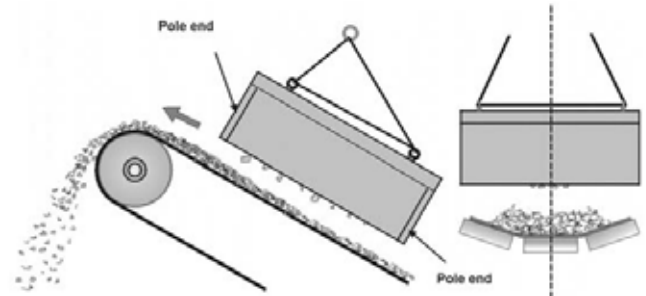
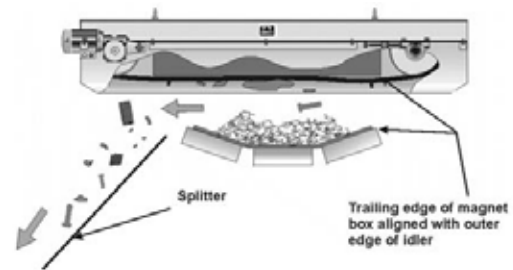

FIGURE 3
FIGURE 4
A separator mounted over a moving bed of material at right angles to the conveyor is referred to as Position 2 (Figures 3 and 4). This installation usually requires a stronger magnet than Position 1 since tramp iron at the bottom of the burden is more difficult to extract.
A separator mounted over a moving bed of material at right angles to the conveyor is referred to as Position 2 (Figs. 3 and 4). This installation usually requires a stronger magnet than Position 1 since tramp iron at the bottom of the burden is more difficult to extract.
- Manually cleaning suspended magnets should be installed on the centreline of the material conveyor, Figure 3. Self-cleaning suspended magnets should be installed with the trailing edge of the magnet box immediately above the outer edge of the conveyor idler on the non-discharge side. Refer to Figure 4.